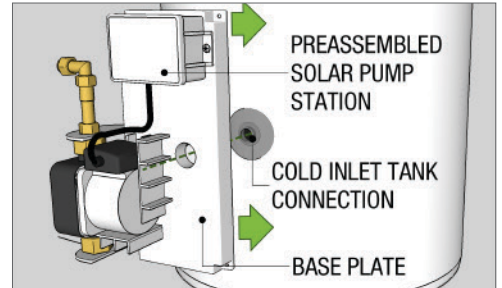

Fig 2
1. Position the base plate including the pre-assembled solar pump station which includes the solar controller, pump and flow control valve onto the tank over the cold inlet tank connection (Fig 2)